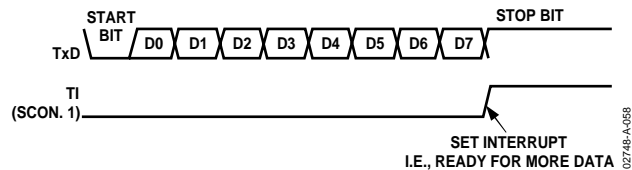

Figure 51. UART Serial Port Transmission, Mode 1
Transmission is initiated by writing to SBUF. The write-to-SBUF signal also loads a 1 (stop bit) into the ninth bit position of the transmit shift register. The data is output bit by bit until the stop bit appears on Tx/D and the transmit interrupt flag (TI) is automatically set as shown in Figure 51.